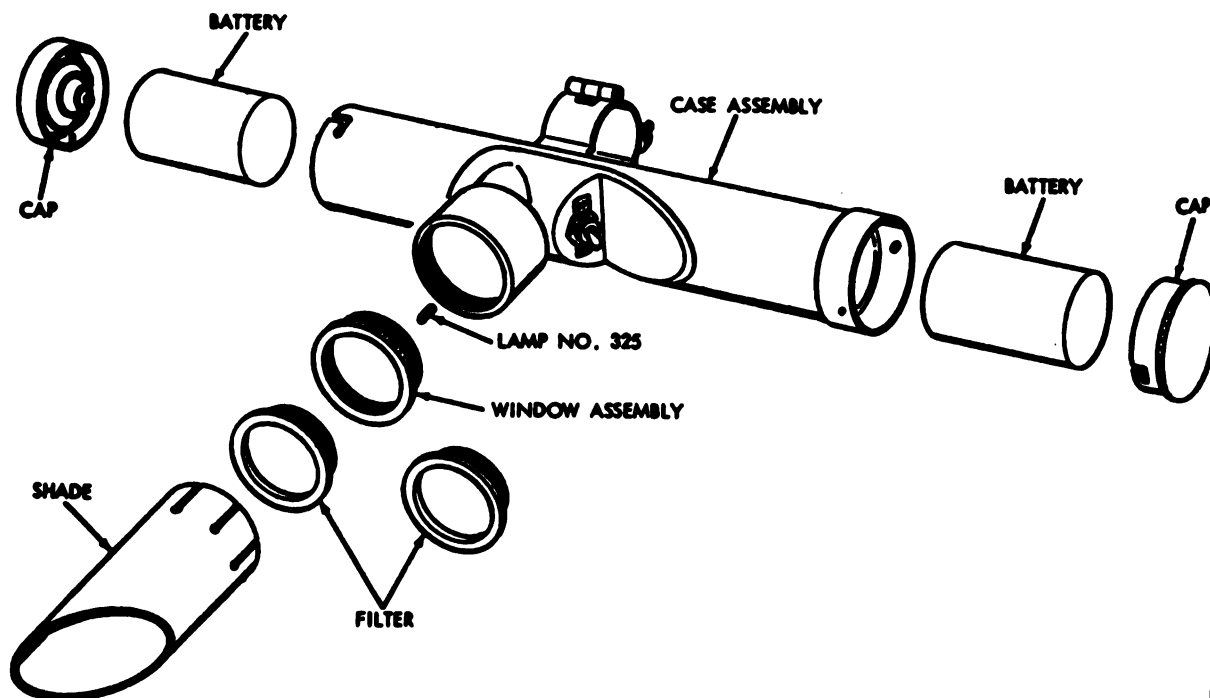

Figure 172. Aiming post light M14 - partially exploded view.
(2) To replace batteries in the aiming post light M14 (fig. 172), remove cap from one end and cover from the opposite end of the case. Both the cap and cover are secured by bayonet pins and are removed by pressing the cap or cover inward and turning slightly until free.
(2) To remove a defective lamp in aiming post light, refer to figure 172.